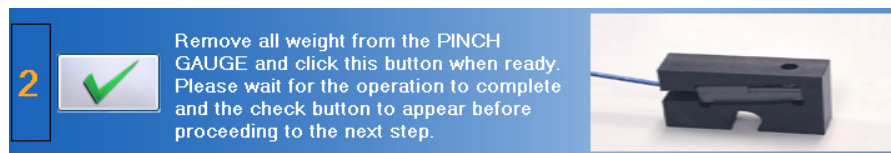

Figure 6-7. Pinch Gauge - Set the Zero Point
Step 2. Once the Pinch Gauge is in place, click on  to set the zero point (Figure 6-7).